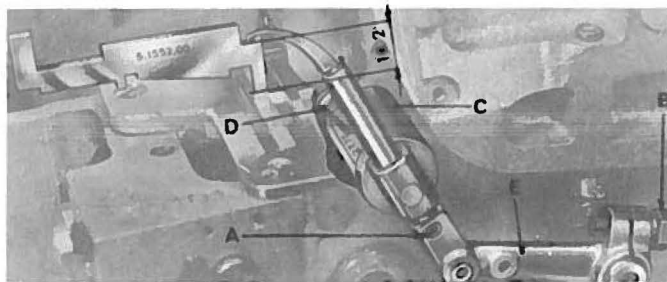

fig. 9
- When the secondary looper has completed its stroke to the left, the distance from the bottom of the looper point to the needle point is $25/64$ inch (fig. 9).
- Place timing gauge N. S.1552.00 on needle plate as shown in fig. 9.
- To adjust, loosen screw B (fig. 9) and move looper lever E (fig. 9) up or down until looper is set properly.
- Loosen screw B and A (fig. 9).
- With the needle on its downward stroke and the secondary looper starting to move to the right, the ball of the secondary looper touches the needle slightly without deflection. This is accomplished by loosening screws D and B (fig.9) and moving secondary looper driving assembly complete with bushing C (fig. 9) forward or backward as may be required to obtain the proper setting.
- Special care must be taken when adjusting the secondary looper assembly to maintain a perfect alignment between secondary looper driving arm E (fig. 9) and secondary looper pivot sleeve in bushing C.